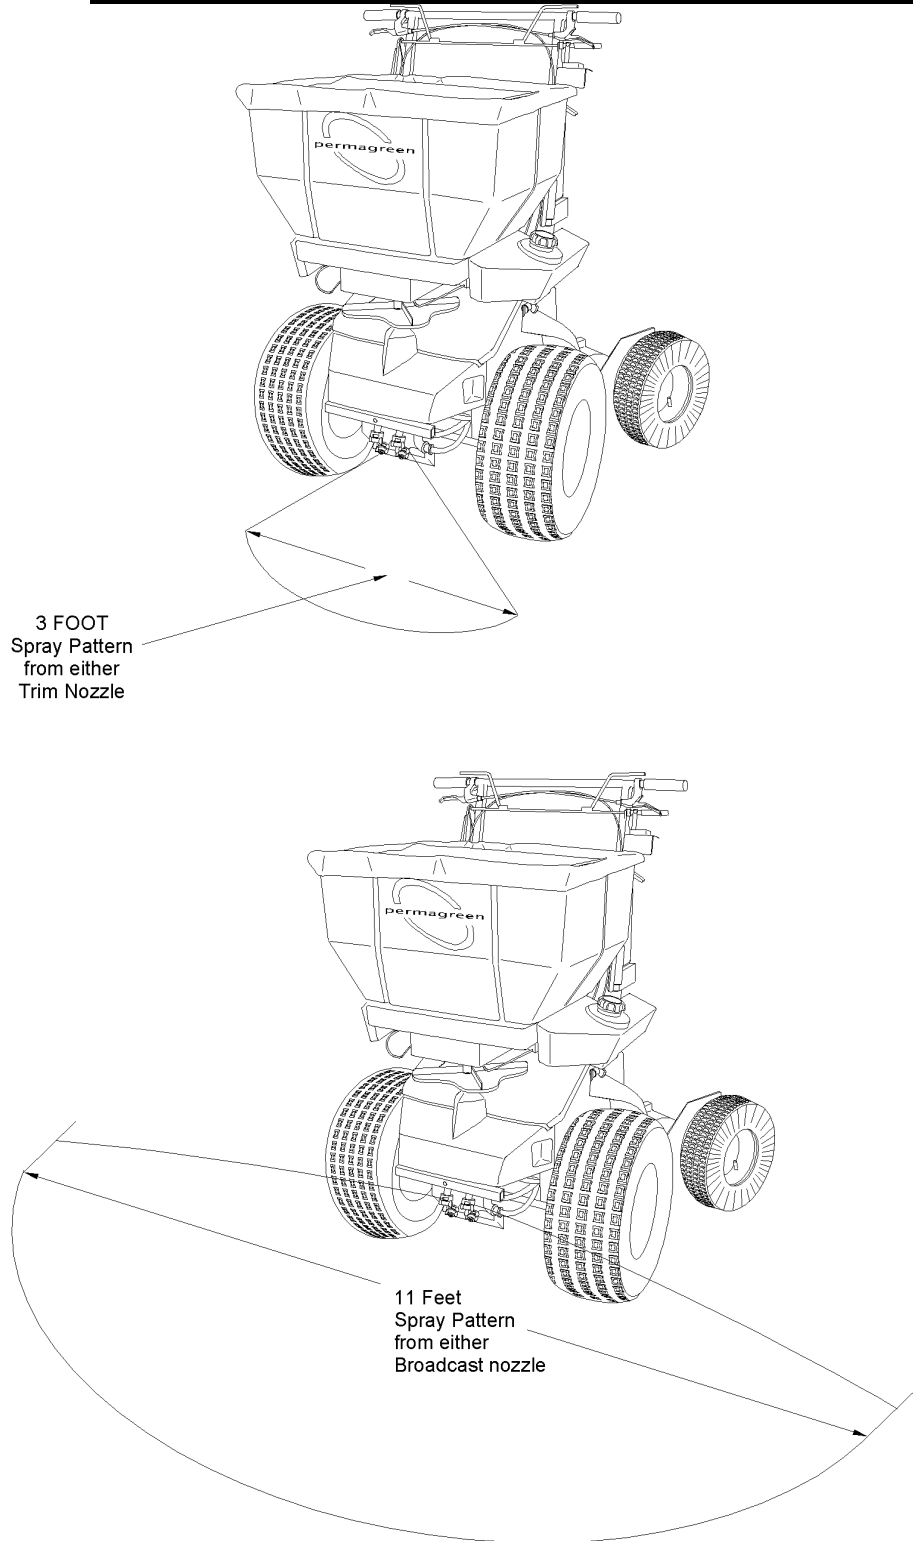

Figure 9. Sprayer Pattern
The sprayer has a pattern width of 11 feet (3.4 meters) using a single front mounted broadcast nozzle, as shown in Figure 9. The spray distribution pattern allows the use of the seven-foot (2.1 meters) overlap spreader travel pattern to achieve an even distribution of the sprayed product. Using the trim nozzle provides an even finished distribution using a single trim nozzle to deliver a spray pattern of 3 feet on the surface being treated.
4. Spray for 15 seconds until the spray pattern is visible on the surface. The spray pattern should resemble the 11foot spray pattern in Figure 9. Adjust as follows:
4. Spray for 15 seconds until the spray pattern is visible on the surface. The spray pattern should resemble the 3-foot spray pattern in Figure 9. Adjust as follows: